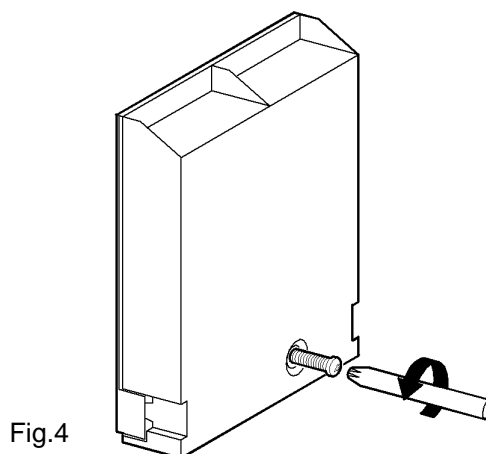

Fig.4
- First remove retaining screw with pozidrive screwdriver. See Fig. 4.